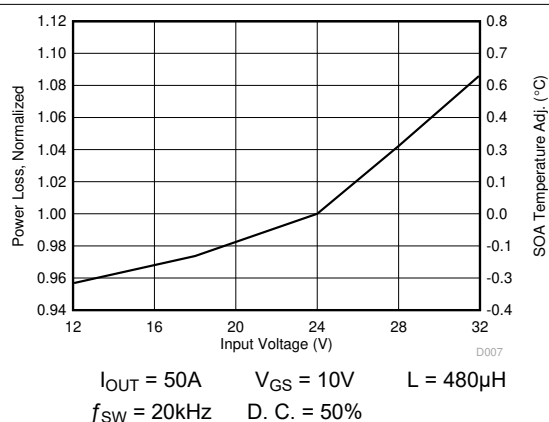

Figure 4-5. Normalized Power Loss vs Input Voltage
- Normalized power loss for input voltage ≈ 1.09 (図 4-5)
- SOA adjustment for input voltage $\approx 0.6^{\circ}C$ (図 4-5)